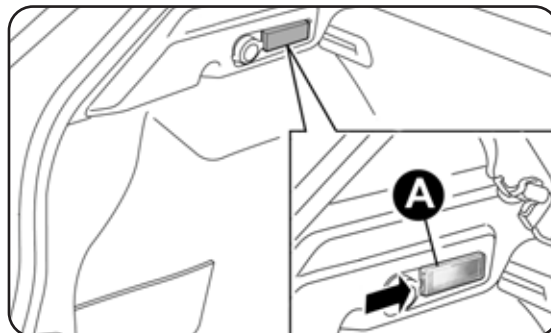

fig. 145
- open the boot and extract the light A-fig. 145 by operating in the point shown by the arrow;
- refit the light A-fig. 145 by inserting in its correct position on one side and then on the other and then press the other side until you hear it click.